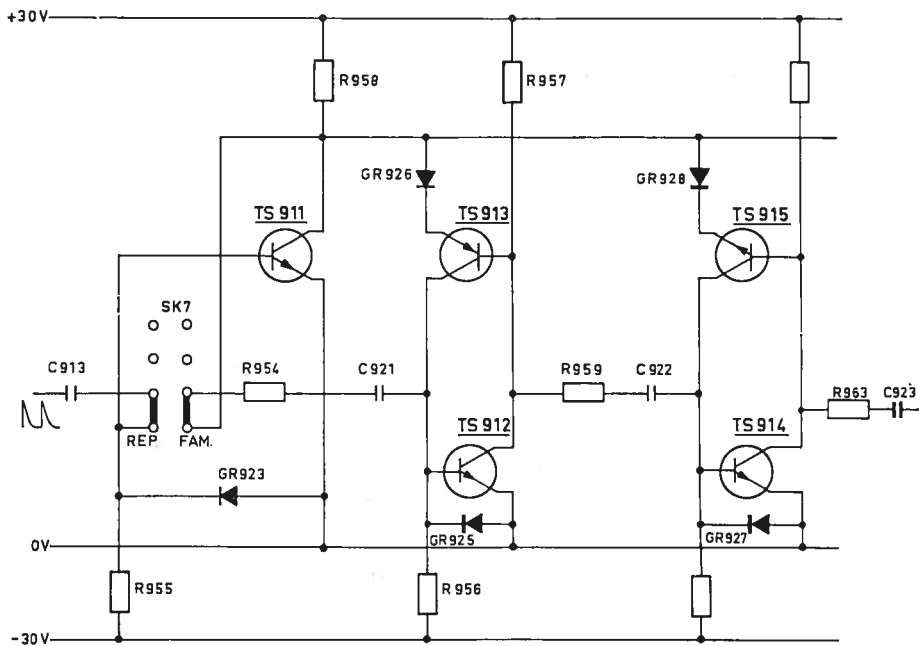

Fig. 55a. Switch position REP FAM
These three modes are obtained by driving the ring counter accordingly (Fig. 55a, b, c).
- In switching mode REP. FAM. (Fig. 55a) the ring counter is driven directly by the trigger pulses from the pulse generator. Via C913 and switch SK7 a positive pulse is applied to the base of TS911. This